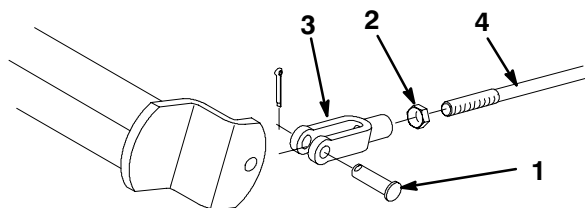

Figure 39
2. Loosen the jam nut and adjust the clevis accordingly (Fig. 39).
3. Assemble the clevis to the brake shaft (Fig. 39).